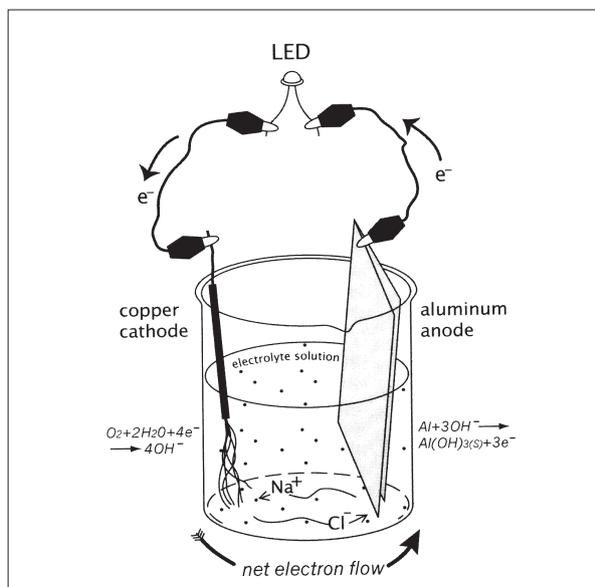

Fig. 1. Electron flow in the saltwater cell.3
The standard “black box” answer is that copper is more electronegative than aluminum and wins the tug-of-war for electrons. This, however, ignores the important role of dissolved oxygen,  $O_2$ . In the external circuit, the flow of electrons is from the aluminum  $\rightarrow$  LED  $\rightarrow$  copper  $\rightarrow$  dissolved oxygen (the opposite direction from the conventional current). But inside the solution, electrons carried by the ions must flow from copper (cathode)  $\rightarrow$  aluminum (anode) in order to complete the circuit and replenish the electrons lost by aluminum (see Fig. 1). How does this happen, and what is the role of the salt? We explain this below.
But the hydroxide ions in Eq. (2) are not those created in Eq. (1)—that's where the salt is important. Sodium ( $\text{Na}^+$ ) ions must flow to the left to neutralize the  $\text{OH}^-$  ions produced at the copper electrode (see Fig. 1). Similarly, the chlorine ( $\text{Cl}^-$ ) ions move to the right to replace the  $\text{OH}^-$  used up in Eq. (2) (the  $\text{OH}^-$  comes from free  $\text{OH}^-$  ions already present in the water). The net result is electrons moving to the right from copper to aluminum—that's the only role of the salt! If this didn't happen, the reaction would only run for a short time and then fizzle out as charge built up at the electrodes.